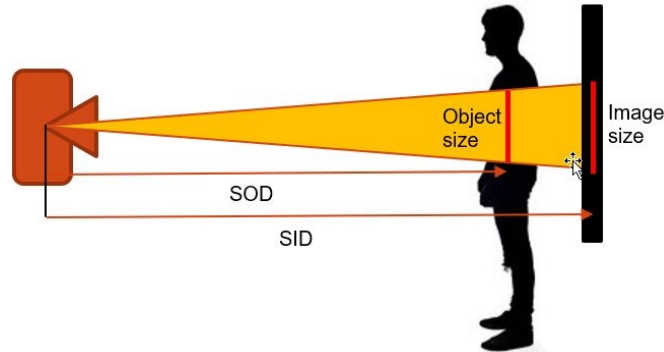

FIGURE 19
- / The magnification M is defined as (Fig. 19):